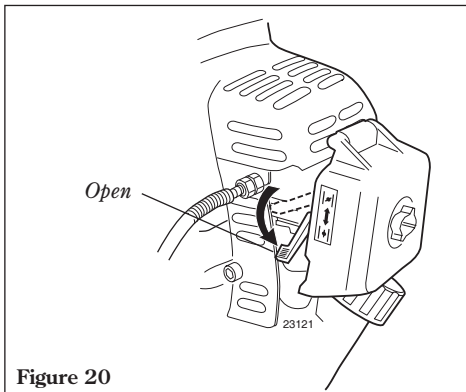

Figure 20
5. When the engine starts, slowly move the choke lever to the "OPEN" position. See Figure 20. (If the engine stops after the initial start, close the choke and restart.)